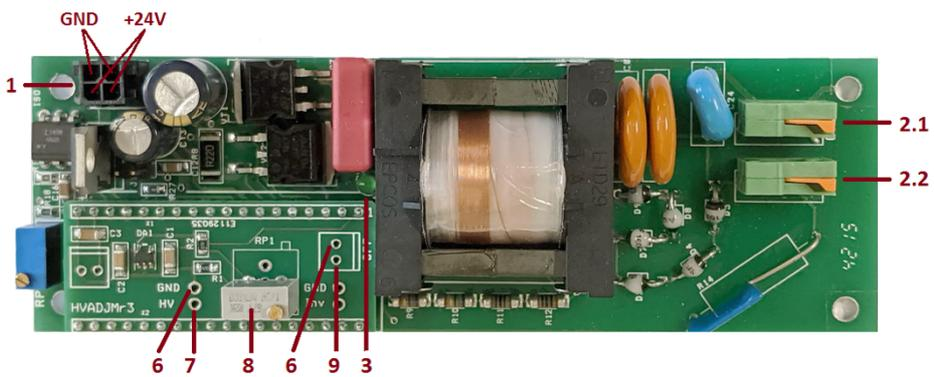

Figure 2. Top view of the HV power supply with potentiometer control
Set the output voltage using the potentiometer (**#8** in **Figure 2**). Ways to control of the output voltage:
2. Alternatively, measure the voltage between points **#6** and **#7** in **Figure 2**. This voltage converts to output voltage approximately as $1V \sim 1\text{ kV}$.